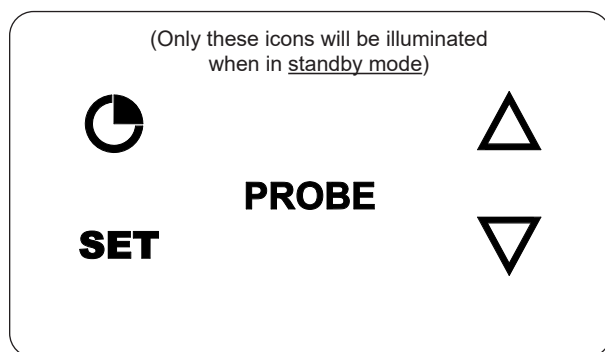

Fig. 38-3 Standby mode
**Press thermometer power switch to turn ON:** The digital controls will illuminate and the thermometer/thermostat will wait in “**standby mode**” until turned on for use. If the meat probe is plugged in, PROBE will also illuminate. See Fig. 38-3.